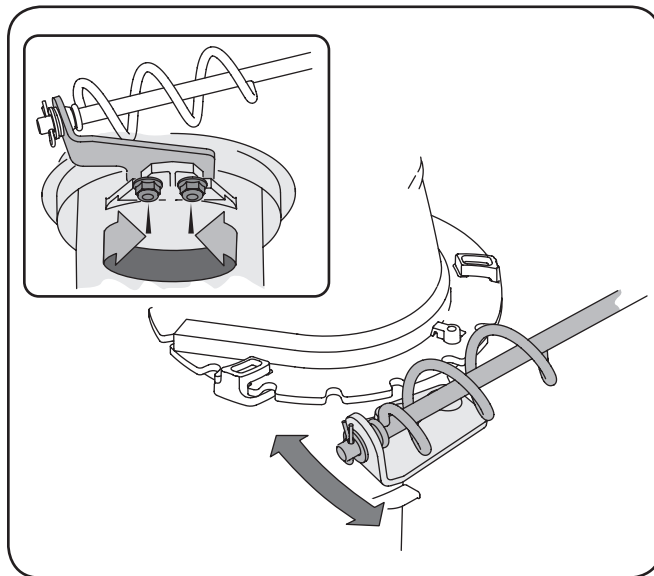

Figure 6-7
1. Loosen the two nuts which secure the chute bracket and reposition it slightly. See Figure 6-7.